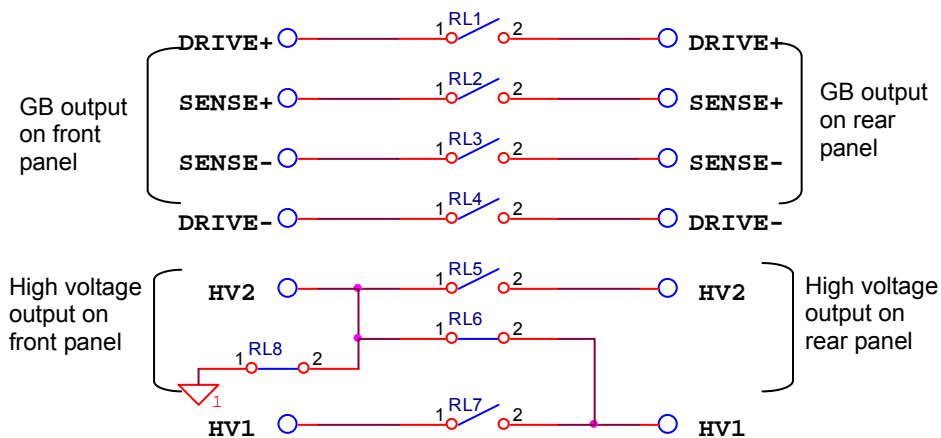

Figure 4-13
- iii. When Channel 3 set to L and HV1 terminal on rear panel set to low voltage terminal, connection diagram of front panel terminal and rear panel terminal is as Figure 4-13 shown: